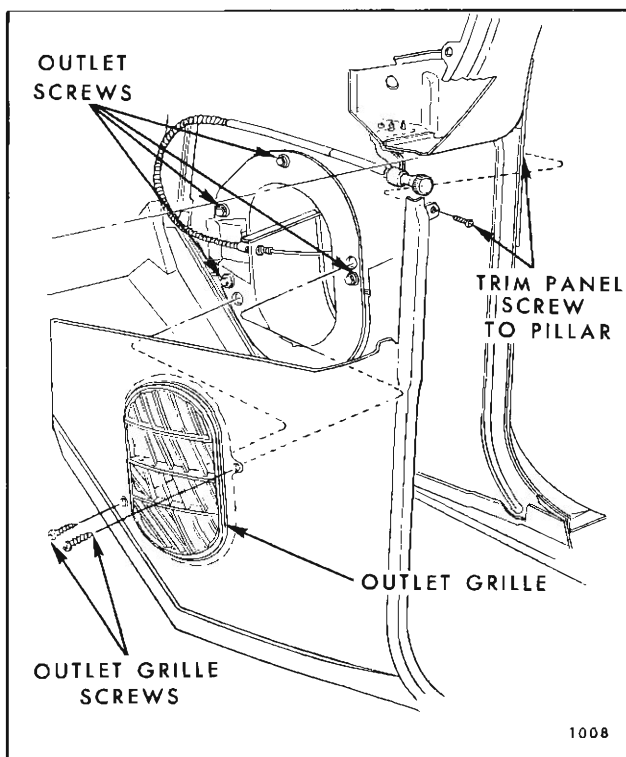

Fig. 2C13—Attachment of Air Outlet, Outlet Grille and Trim Panel
3. Remove sill plate and remove trim panel assembly (Fig. 2C13).